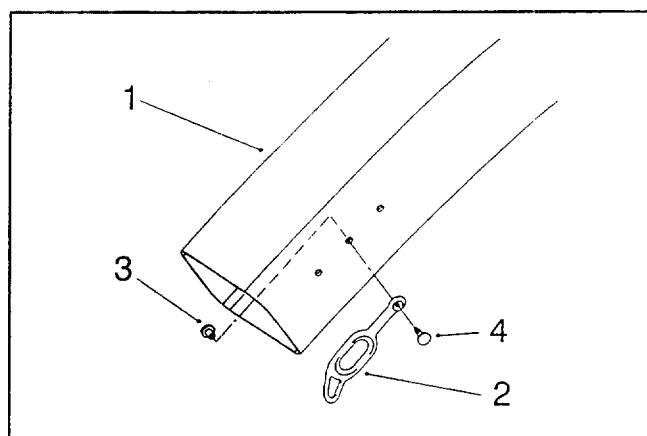

Figure 10
2. Attach the rubber latch to the **middle** hole in the discharge tube using the plastic two-piece fastener (Fig. 10). Install the flanged spacer through the hole in the discharge tube from the inside. Place the rubber latch (grip tab up) over the spacer shaft, then insert the barbed fastener into the hole in the flanged spacer and push them together.